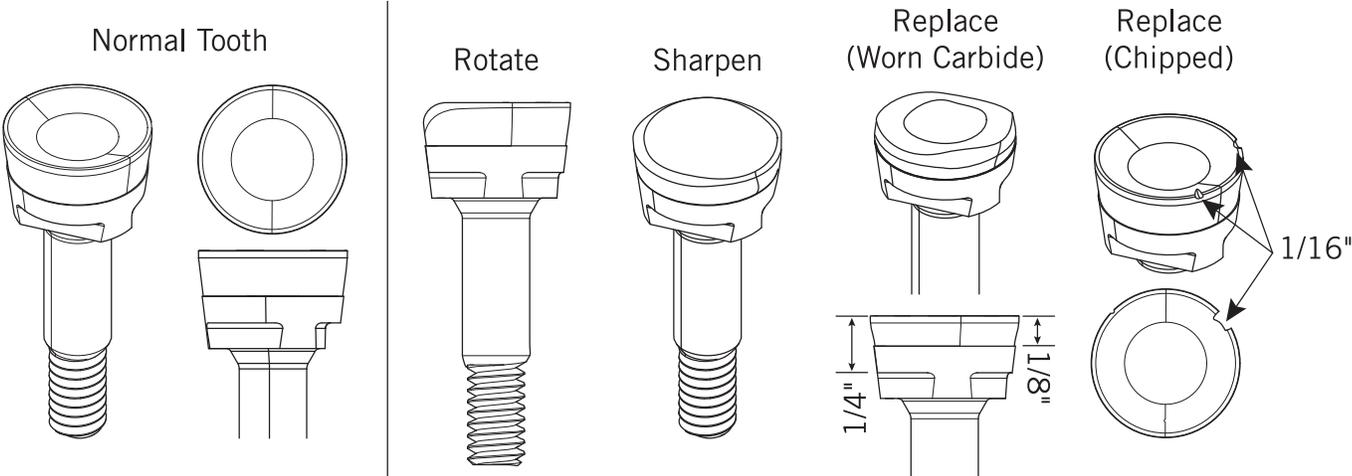

Figure 5.3.1
The tooth can be sharpened to a minimum of 1/8" (.125") carbide thickness or 1/4" (.250") as measured from the top of the carbide down to the steel shank flat (see Figure 5.3.1). Each tooth may be sharpened up to 3 times depending on how severe the tooth was worn prior to sharpening.
- Replace a tooth if carbide thickness is less than 1/8" (.125") or 1/4" (.250") as measured from top of carbide down to the steel shank flat (see Figure 5.3.1).